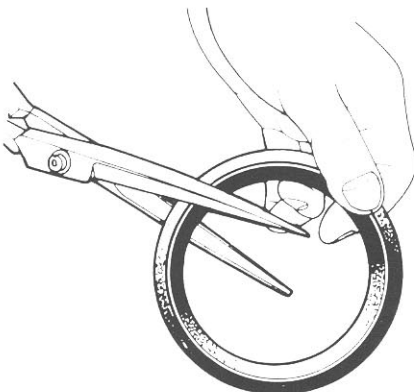

Fig. 17-46
- 3) Cut the replacement oil seal at one place with scissors or a knife as shown in Fig. 17-46.